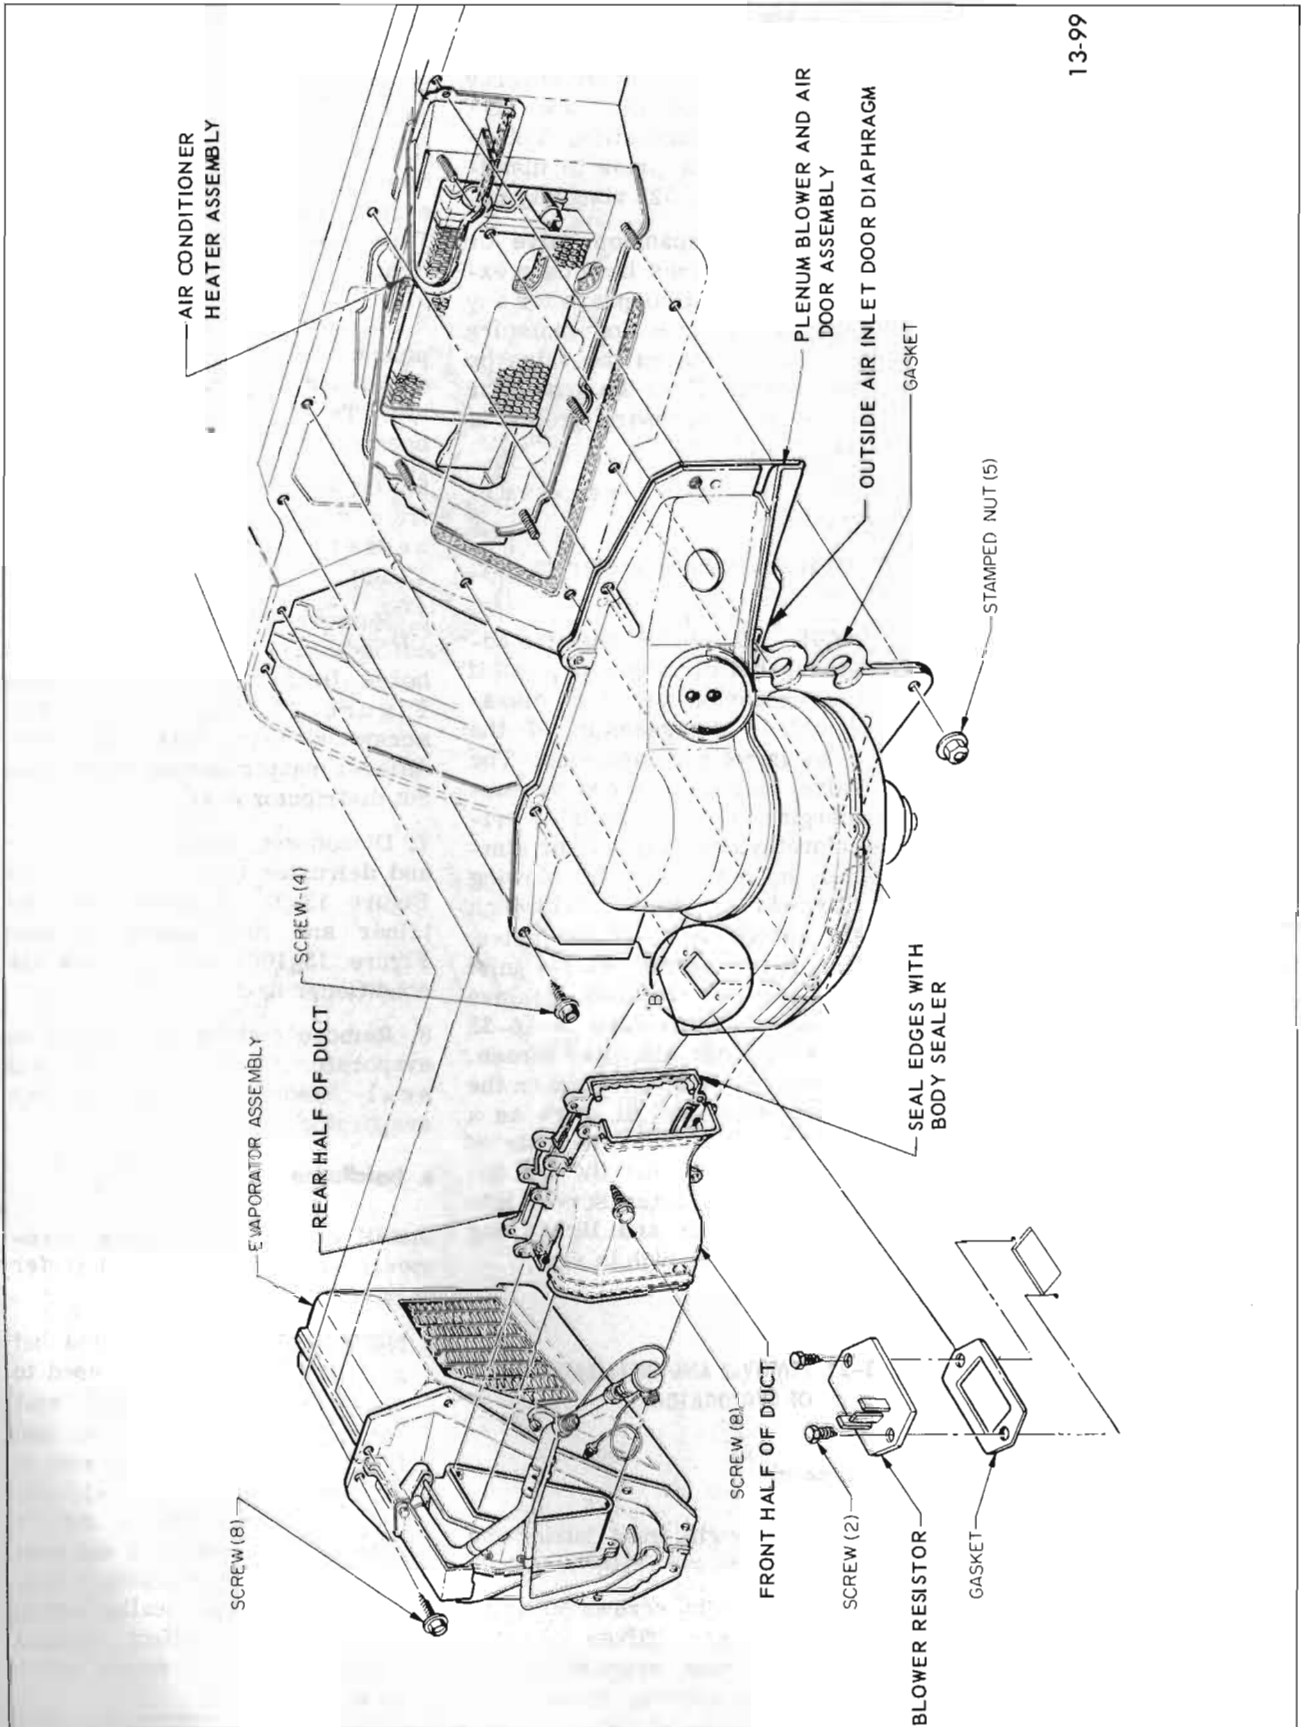

Figure 13-99—Evaporator Assembly, and Plenum Blower and Air Valve Assembly Installation
air door assembly (see Figure 13-99).
5. Remove five stamped nuts from studs of air conditioner heater assembly (see Figure 13-99).
2. Remove eight screws securing plastic duct situated between plenum blower and air door assembly and evaporator assembly (see Figure 13-99), then take out front and rear halves of duct.
6. Remove five stamped nuts and four screws securing plenum blower and air door assembly, (see Figure 13-99), partially withdraw assembly, work electrical connectors thru hole in assembly and complete removal of assembly.
2. Remove five stamped nuts (see Figure 13-99) securing studs of air conditioner heater assembly to cowl.